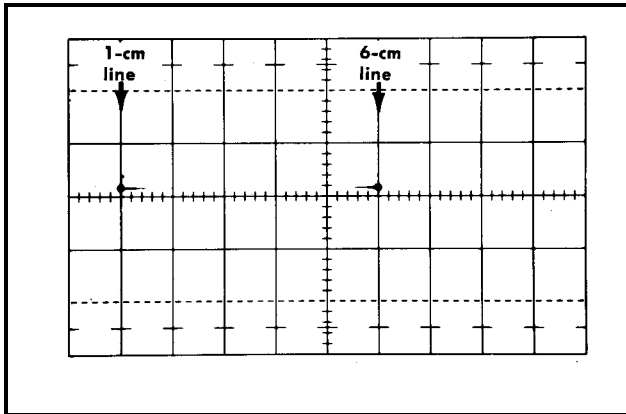

Fig. 2-2. Oscilloscope display for adjusting external horizontal deflection factor ( $\pm 4\%$ ).
13. With the oscilloscope Horizontal Position control, position the left dot to the 1-cm graticule line (see Fig. 2-2).